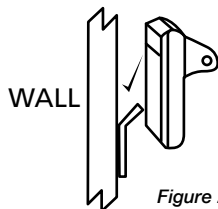

Figure 2
- Hang the fan body with motor onto the wall bracket as shown in figure 2.